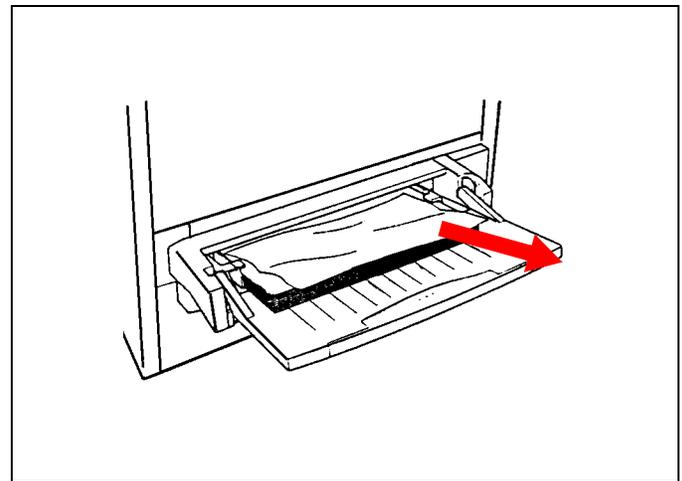

Figure 20
1. See Figure 20. Pull the jammed paper out of the tray. Be sure no torn pieces of paper are left inside.